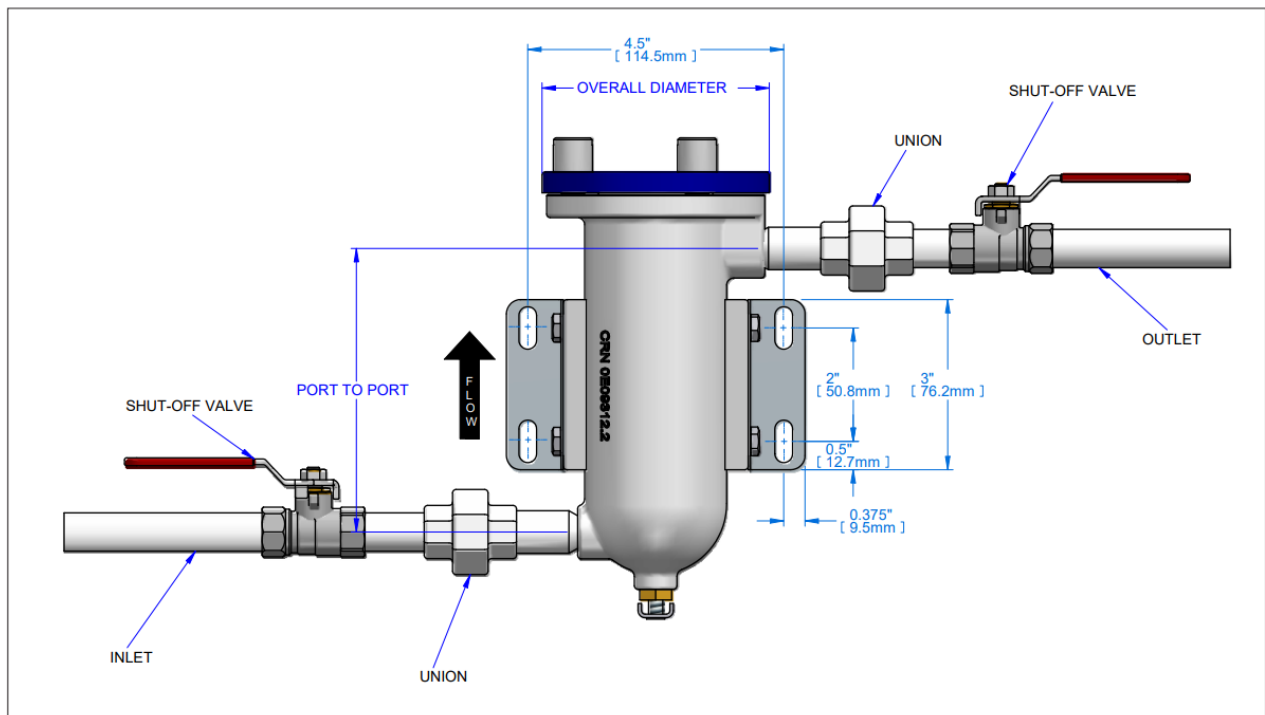

Figure 1 – G-10 & M-10 Assembly Diagram
1. For maximum efficiency, FLO-DRI unit should be installed as indicated in Figure 1.